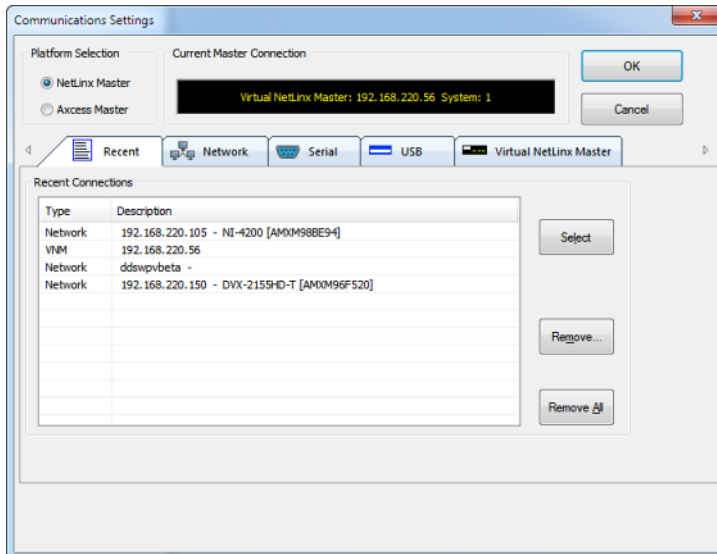

FIG. 19 NetLinx Studio - Communication Settings dialog (TCP/IP selected)
- Click **Communications Settings** to open the *Communications Settings* dialog (FIG. 19):